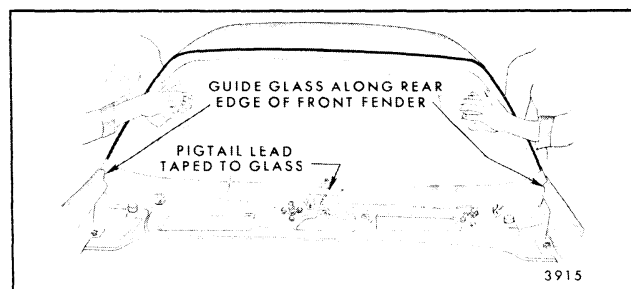

Fig. 1-14-Glass Installation
8. With aid of helper, lift glass into window opening. On back window installations it will be necessary to use suction cups to position glass in opening. Windshield glass can be positioned without aid of carrying devices. As shown in Figure 1-14, carry glass with one hand on inside of glass and one hand on outside. At window opening, put glass in horizontal position. While one man holds glass in this position, second man
6. With aid of helper, lift glass into window opening. On back window installations it will be necessary to use suction cups to position glass in opening. The windshield glass can be positioned without aid of carrying devices as described in Step 7 (Fig. 1-14).
16. Using tape guides applied in Step 10, carefully position glass in window opening. Guide lower outer surface of glass along rear edge of front fenders to avoid smearing fresh adhesive material on instrument panel (Fig. 1-14). Make certain glass is properly aligned to tape guides on pillars, and positioned on lower metal supports. Apply light hand pressure to "wet-out" adhesive material and obtain bond to body opening.